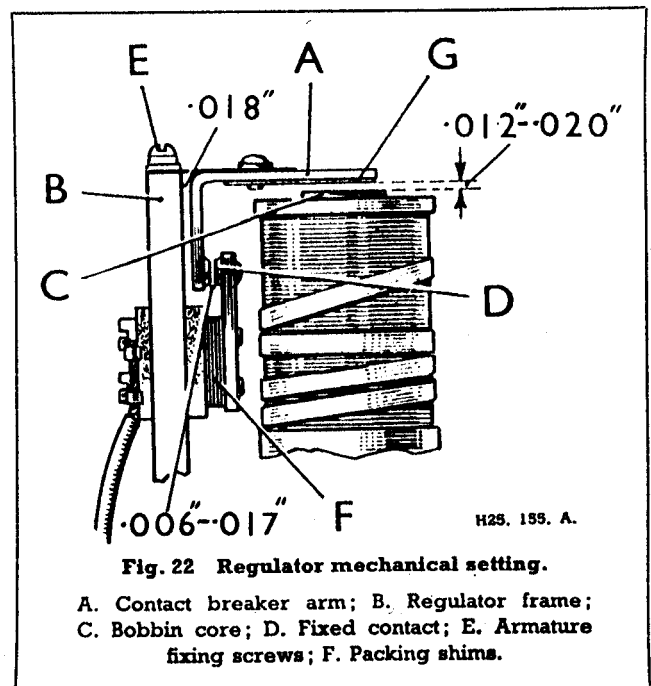

Fig. 22 Regulator mechanical setting.
- (a) Slacken the two armature fixing screws (E) fig. 22. Insert .018-in. feeler gauge between back of the armature 'A' and the regulator frame.
- (c) Check the gap between the underside of the arm and the top of the bobbin core. This should be .012-.020in. If the gap is outside these limits, correct them by adding or removing shims (F) at the rear of the fixed contact.